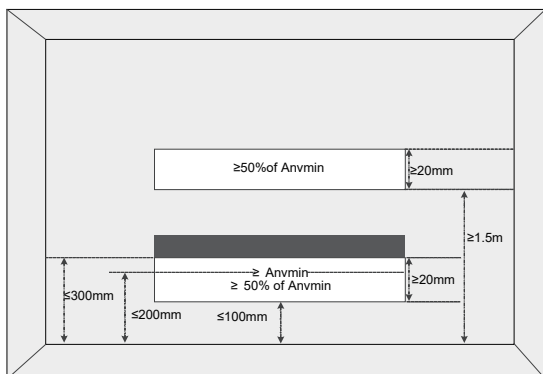

Figure 1-2
- The room area (A) shall be defined as the room area enclosed by the projection to the base of the walls, partitions and doors of the space in which the appliance is installed.
- The area of the adjacent rooms, on the same floor, connected by permanent opening in the walls and/or doors between occupied spaces, including gaps between the wall and the floor, can be considered a single room when determining compliance to Amin, provided all of the following conditions are met as Figure 1-2.
- ① The opening shall not be less than 0.0123 m² (Anvmin)
- ② The area of any openings above 300 mm from the floor shall not be considered in determining compliance with Anvmin.
- ③ At least 50 % of the opening area of Anvmin shall be below 200 mm from the floor.
- ④ The bottom of the opening is not more than 100 mm from the floor.
- ⑤ The opening is a permanent opening that cannot be closed.
- ⑥ The height of the opening is not less than 20 mm.
- ① The opening shall not be less than 0.0062 m² (50% of Anvmin).
- ② The opening is a permanent opening that cannot be closed.